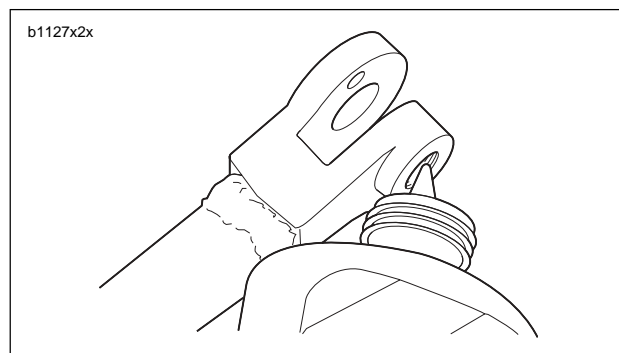

Figure 2-120. Threaded Area for Loctite Application
- b. See Figure 2-120. Apply LOCTITE 272 (Red) to threaded area (clevis) of sidestand leg.